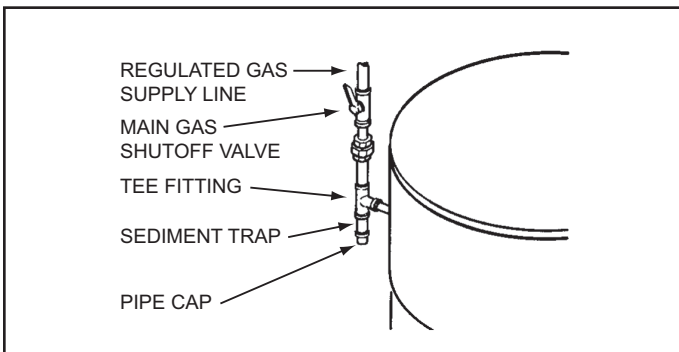

Figure 47
Ensure all gas pipe is clean on the inside before installation. To trap any dirt or foreign material in the gas supply line a sediment trap must be installed as shown in Figure 47. The sediment trap must be readily accessible and not subject to freezing conditions. Install in accordance with the recommendations of the local gas utility company.
7. Install a sediment trap as shown in Figure 47 on page 39.
8. Install a Main Gas Shutoff valve in the supply gas line as shown in Figure 47 on page 39.
1. For test pressures exceeding 1/2 psi (3.45 kPa) disconnect the water heater and its Main Gas Shutoff Valve from the gas supply piping system during testing, see Figure 47 on page